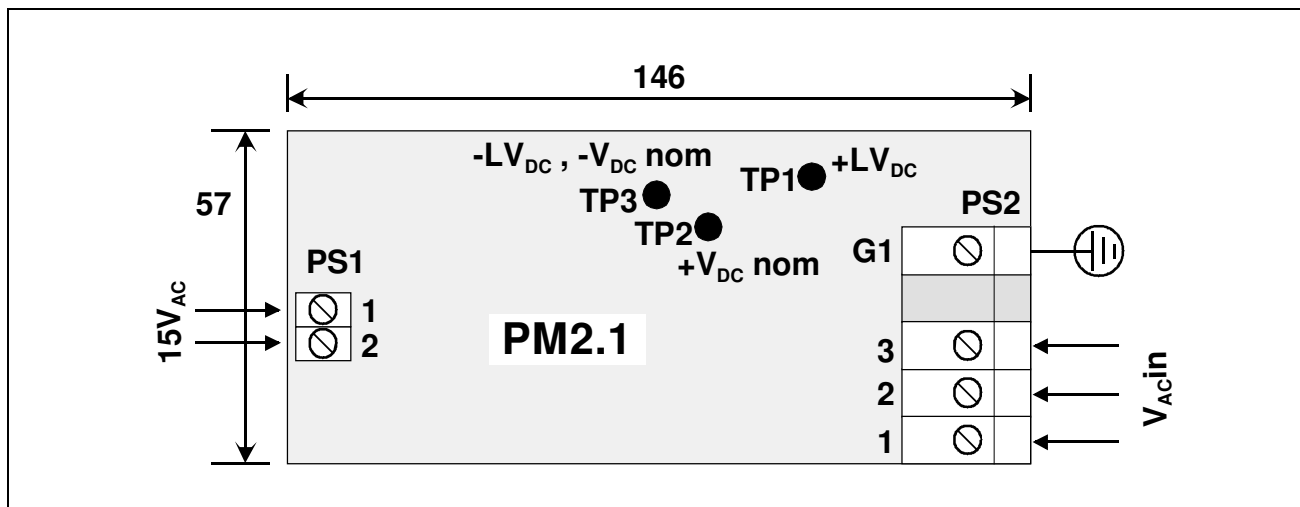

Fig. 6 - SUPPLY MOTHERBOARD REAR VIEW (FROM SCREW CONNECTOR SIDE)
- 8.5 - Motherboard PM2 is a printed circuit board, which is mounted on the rear rails of a 3 units rack. The motherboard holds, on the face towards rack front, a DIN 41612 form D connector (where Power Supply PS03, PS04 or PS06 is inserted) and, on the back face, two screw-type terminals (PS1 and PS2 in fig. 6) PS2 is used for the connection of the secondary winding of the power transformer, where PS1 is used for the connection of secondary 15 V_{AC} winding, when customer needs a 12 V_{DC} voltage for auxiliary purposes. This auxiliary voltage is not necessary for drives operation and therefore connection to PS1 have to be done only if they are needed from the user. The three